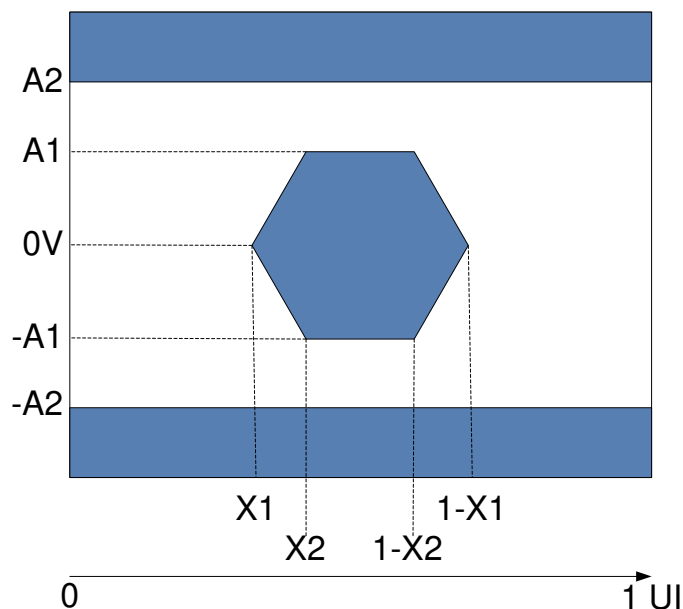

Figure 5-12. HSSI Eye Characteristics
(1) All power supply connections are required to operate the DMD: V_{DD}, V_{D_{DA}}, V_{OFFSET}, V_{BIAS}, and V_{RESET}. All V_{SS} connections are required to operate the DMD.
(2) All voltage values are with respect to the ground pins (V_{SS}).
(3) To prevent excess current, the supply voltage delta | V_{D_{DA}} – V_{DD} | must be less than specified limit.
(4) To prevent excess current, the supply voltage delta | V_{BIAS} – V_{OFFSET} | must be less than specified limit.
(5) Supply power dissipation based on three global resets in 200μs.
(6) LVC MOS input specifications are for pin DMD_DEN_ARSTZ.
(7) LVC MOS output specification is for pins LS_RDATA_A and LS_RDATA_B.
(8) Refer to Figure 5-12 (1e-12 BER).
(9) Defined in the *Recommended Operating Conditions*